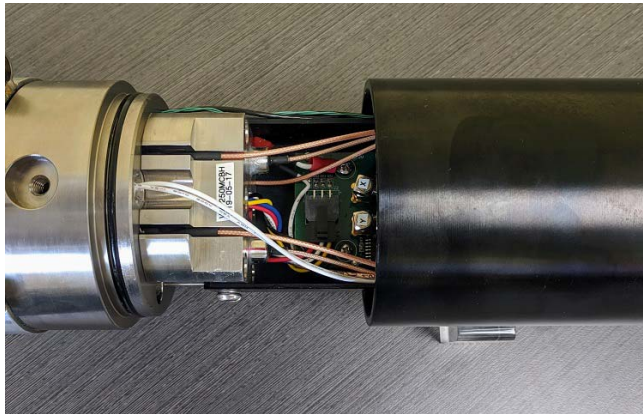

Figure 18: Sliding electronics out of pressure tube
2. Slowly slide the pressure tube past the internal frame (Figure 18), exposing the internal electronics.